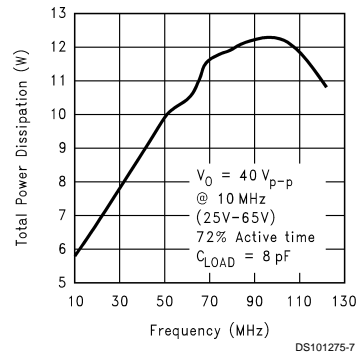

FIGURE 6. Power Dissipation vs Frequency
Figure 6 shows that total power dissipation of the LM2413 vs. Frequency when all three channels of the device are driving an 8 pF load. Typically the active time is about 72% of the total time for one frame. Worst-case power dissipation is when a one on, one off pixel is displayed over the active time of the video input. This is the condition used to measure the total power dissipation of the LM2413 at different input frequencies. Figure 6 gives all the information a monitor designer normally needs for worst case power dissipation.
3. Subtract the 0.6W from the power dissipation from Figure 6. For 100 MHz this would be 12.4 – 0.6 = 11.8W.
The LM2413 case temperature must be maintained below 100°C. If the maximum expected ambient temperature is 70°C and the maximum power dissipation is 12.2W (Figure 6) then a maximum heat sink thermal resistance can be calculated: